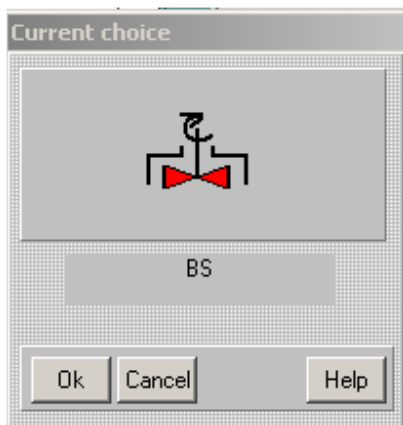

Figure 4.
1.3. Click on this image, and the selected scheme appears in the **Current choice** window (Figure 4)